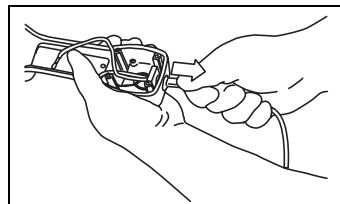

Figure 5. Adjusting the Strain Relief
- 2 From the outside of the housing, pull on the strain relief until it snaps firmly into place (Figure 5).